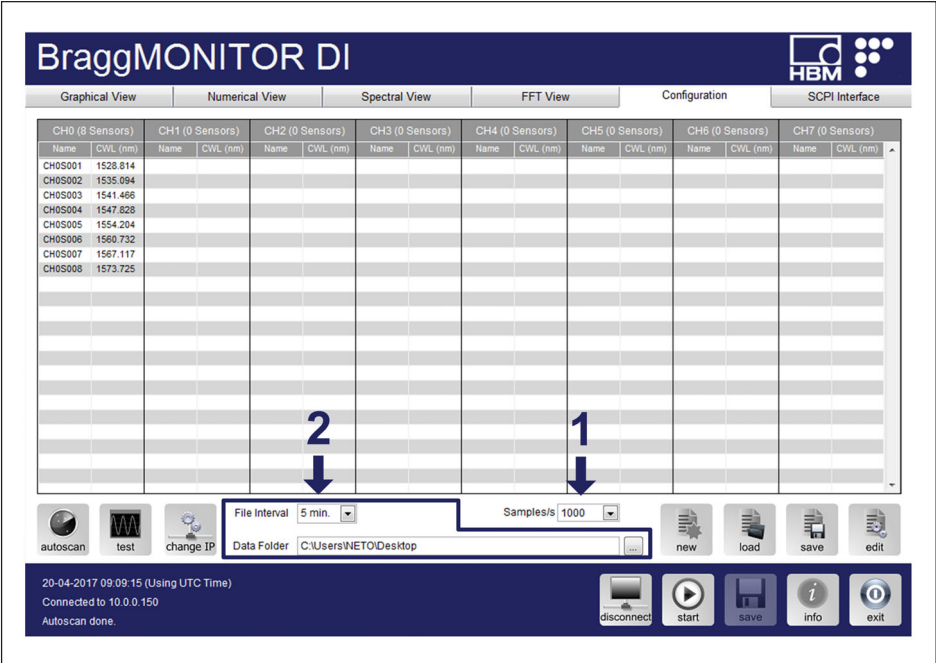

Fig. 5.4
- Measurement acquisition rate (number 1 in Fig. 5.4):
- Data storage settings (number 2 in Fig. 5.4):